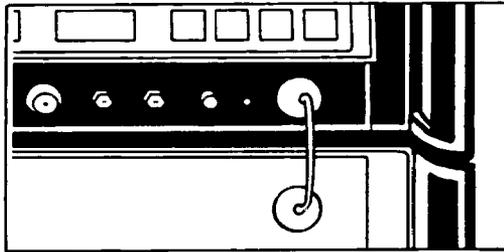

FIGURE 2-7. SEMI-RIGID CABLE CONNECTION
1. If the preselector is connected to an HP 8568B Spectrum Analyzer, connect the type N-to-type N semi-rigid cable, HP part number 85685-20055, from the preselector output to the spectrum analyzer input 2, as in Figure 2-7. If the preselector is connected to an HP 8566B Spectrum Analyzer, use the type N-to-type N semi-rigid cable, HP part number 85685-20128, instead.